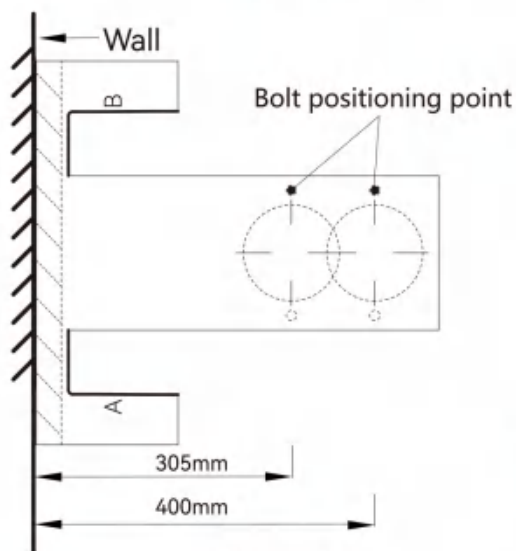

Figure 1
1. Align the positioning plate with center line of sewage outlet, and fix it with transparent tape around. Draw the corresponding outlines according to the the bold lines A and B, then drill holes for bolts according to bolt positioning point, and remove the positioing plate. As shown in Figure 1.